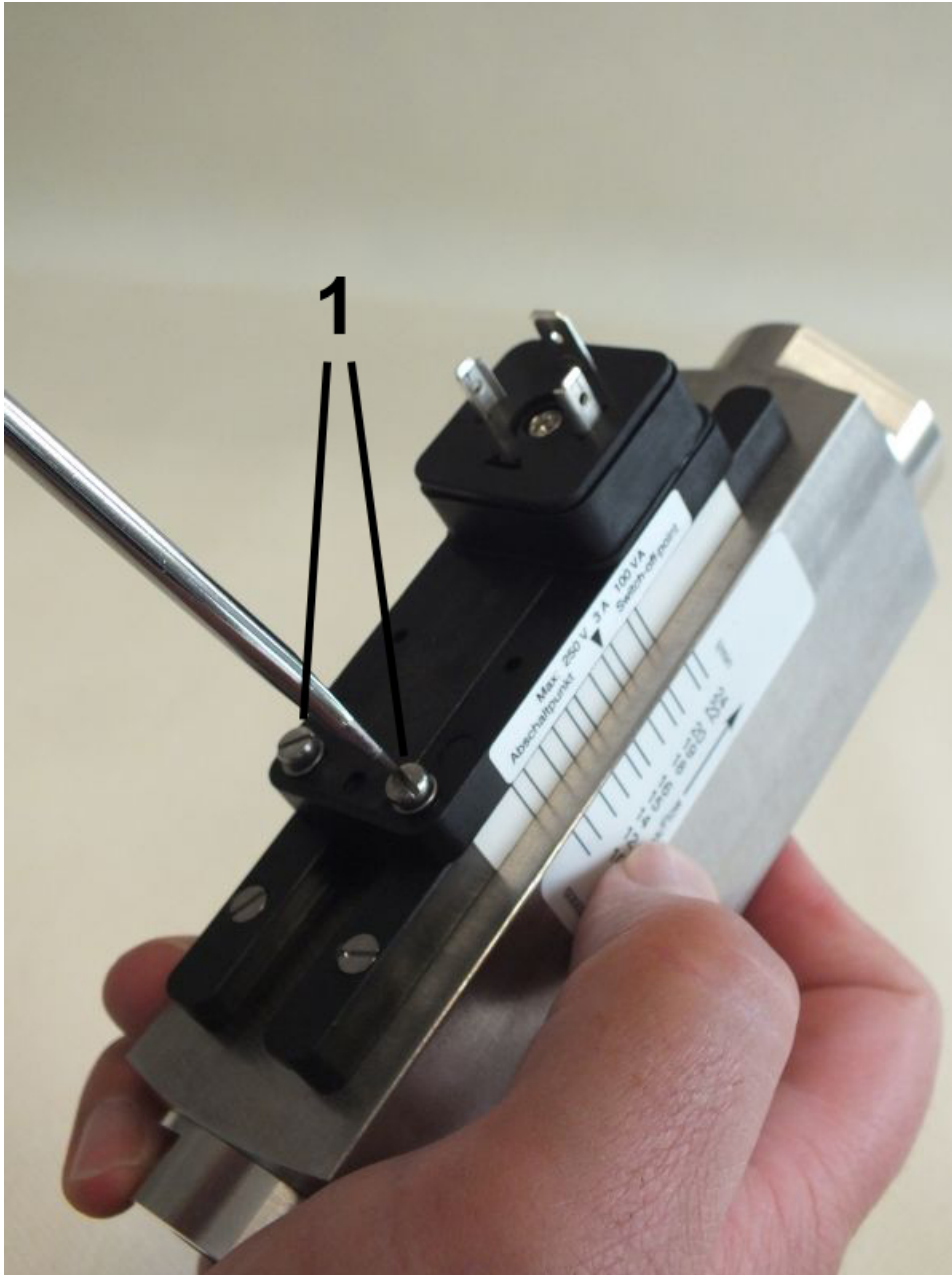

Fig. 80: Loosen set screws
- 3.** Using a flat-bladed screwdriver (*Fig. 80/1*) loosen the set screws of the switch contact until it can move freely.
11. ➤ Tighten the set screws (*Fig. 80/1*) observing the proper tightening torque of the screws (➔ *Chapter 11.1 "Tightening torque of screws" on page 106*)